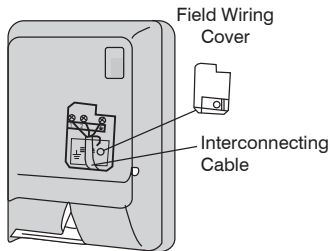

Fig. 79 - Field Wiring Cover
5. Open front cover of indoor unit and remove field wiring terminal block cover (see Fig. 79)